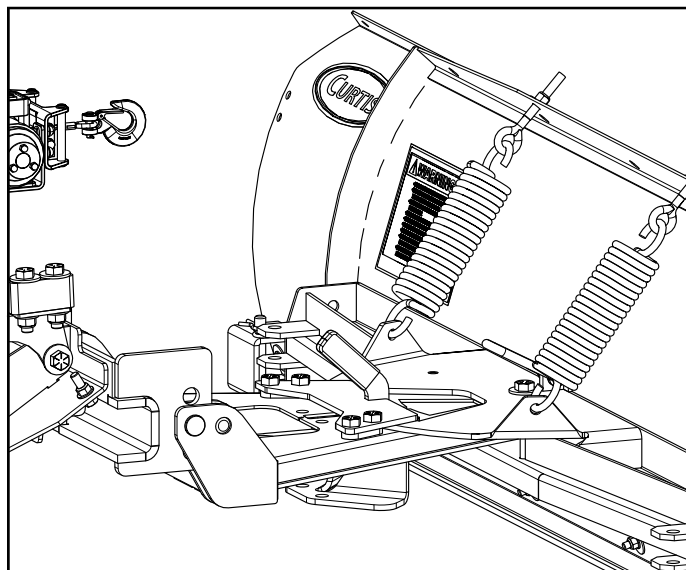

Fig. 7.1 (Winch Cable)
7.1 Extend Winch Cable out from Winch. Allow for enough slack in the cable to easily reach the plow's D shackle. See Fig. 7.1.